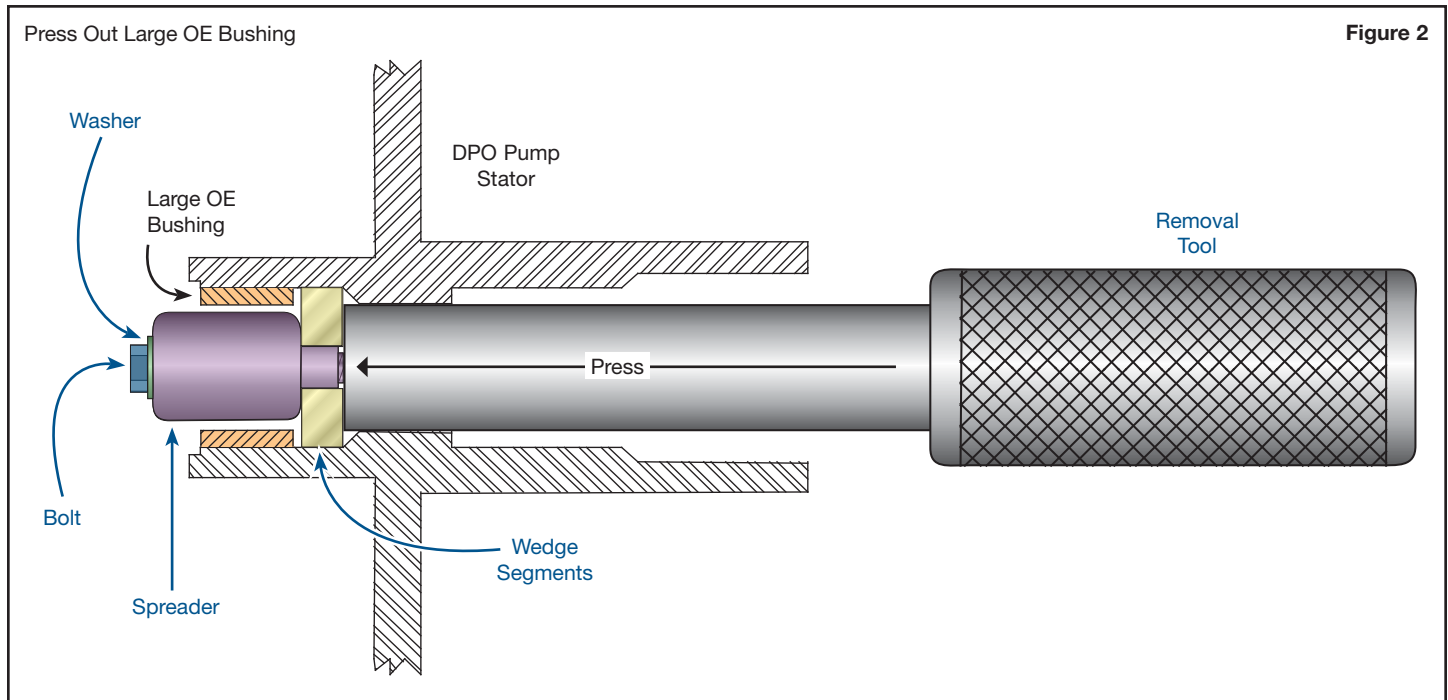

Figure 2
- c. Remove larger OE bushing by pressing out and away from the smaller bushing location (**Figure 2**). This requires all components included in Sonnax removal tool kit.